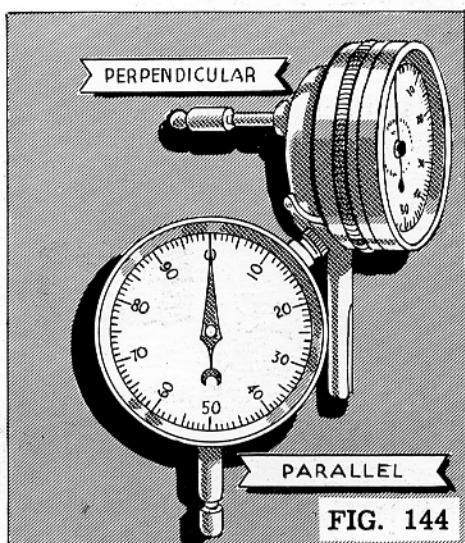

FIG. 144
Dial indicators (Fig. 144) are graduated to read either to one-thousandth part of an inch ($1/1000"$) or to one ten-thousandth part of an inch ($1/10,000"$) with the operator estimating the value when the pointer is not exactly on the line representing the basic dimension. Four practices for setting the vise with an indicator are given.
9. Select an indicator with the contact shaft perpendicular with the dial (Fig. 144). The dial faces upward and can be conveniently read from the operating position.